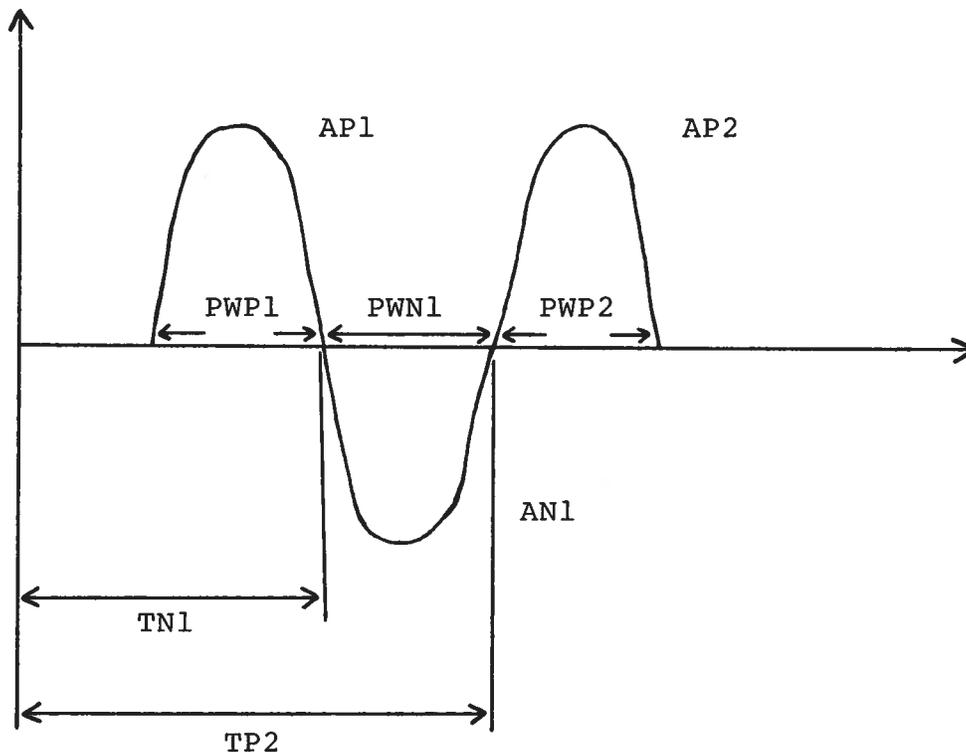

Fig. 3 OUTPUT WAVEFORM FORMAT AND
- 4) The output waveform is of the general form shown in Fig. 3. A warm-up period of about 5 minutes should be allowed.
- (1) FUSED CONNECTOR, VOLTAGE SELECTOR (J1). The detachable power cord is connected at this point. In addition, the removable cord is adjusted to select the desired input operating voltage. The unit also contains the main power fuse (0.5 A SB).
- (2) 2.0A SB. Fuse which protects the output stage if the output duty cycle rating is exceeded.
- (3) PHILLIPS SCREWS. Remove 4 rear panel PHILLIPS screws to allow the removal of the top cover (slides back).
- (4) TRIG (J2). SMA connector to which 1 us (or wider) $\overline{\text{NIM}}$ pulse is applied. The buncher is triggered on the rising edge of a NIM signal (when it goes from -.8 Volts to 0 Volts). The buncher trigger must be brought low for at least 1.0 microseconds before the trigger point. Trigger signals must then remain high (at 0 Volts) for the rest of the cycle until just before the next trigger point. The buncher propagation delay is about 90 ns.
- (5) OUT (J3). SMA output connector provides output waveform shown in Fig. 3.
- e) CP-PEB-3 module. This power combiner module accepts the output of the -PG-N module and the CP-PEB-1 module and outputs the basic waveform shown in Fig. 3.